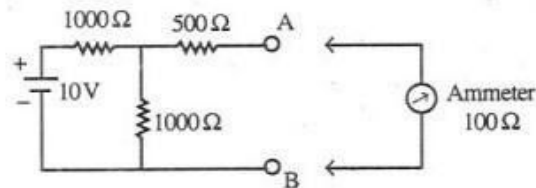

Figure 1
- b) It is desired to measure the value of current in the 500Ω resistor as shown in figure 1 by connecting a 100Ω ammeter. Find: